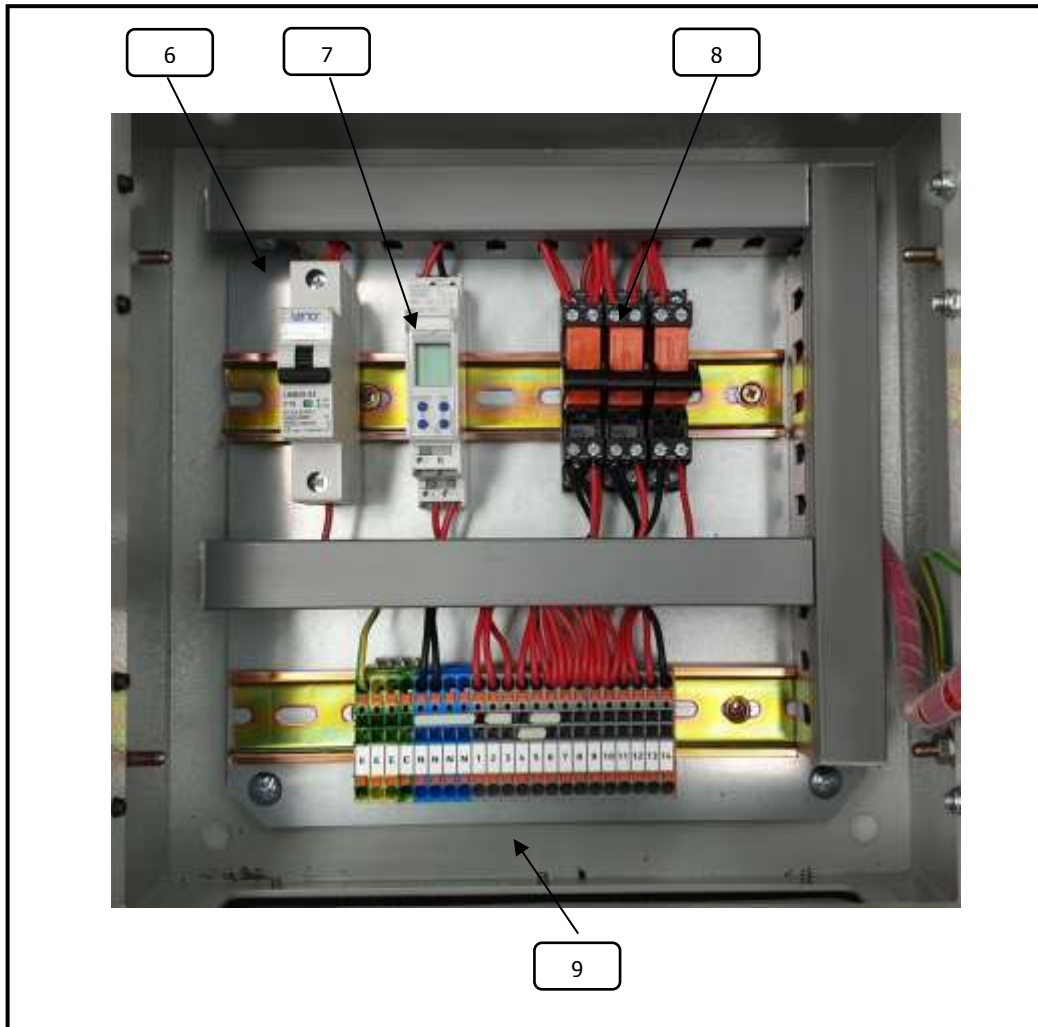

Figure 3 – Control Panel Inside Description
15. Program the 24 hour, 7 day *timer* (refer Fig. 3 position 7), by following the timer instruction sheet supplied.